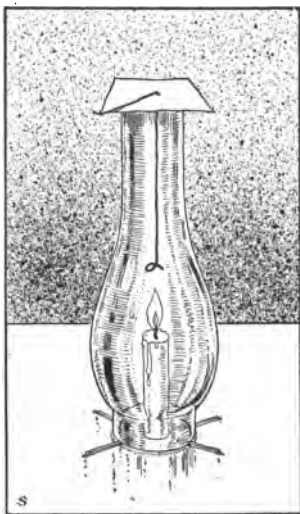

FIG. 71. Testing the air in the lamp chimney for carbon dioxid.
**Exercise 10.** Make a loop in the end of a piece of wire by bending it around a small lead pencil. Pass the wire through a piece of cardboard or stiff paper as shown in Figure 71. Insert the loop of the wire into clear limewater; when it is taken out it will hold a thin film of the water. Lower the wire into a lamp chimney and let the paper cover the top of the chimney loosely. Then set the chimney over a burning